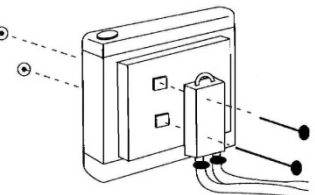

FIGURE 3
2. Mount cooler to radiator and/or air condenser as shown in diagram (fig. 3). *Note:* Locate unit leaving space for transmission and/or engine oil cooler if necessary.